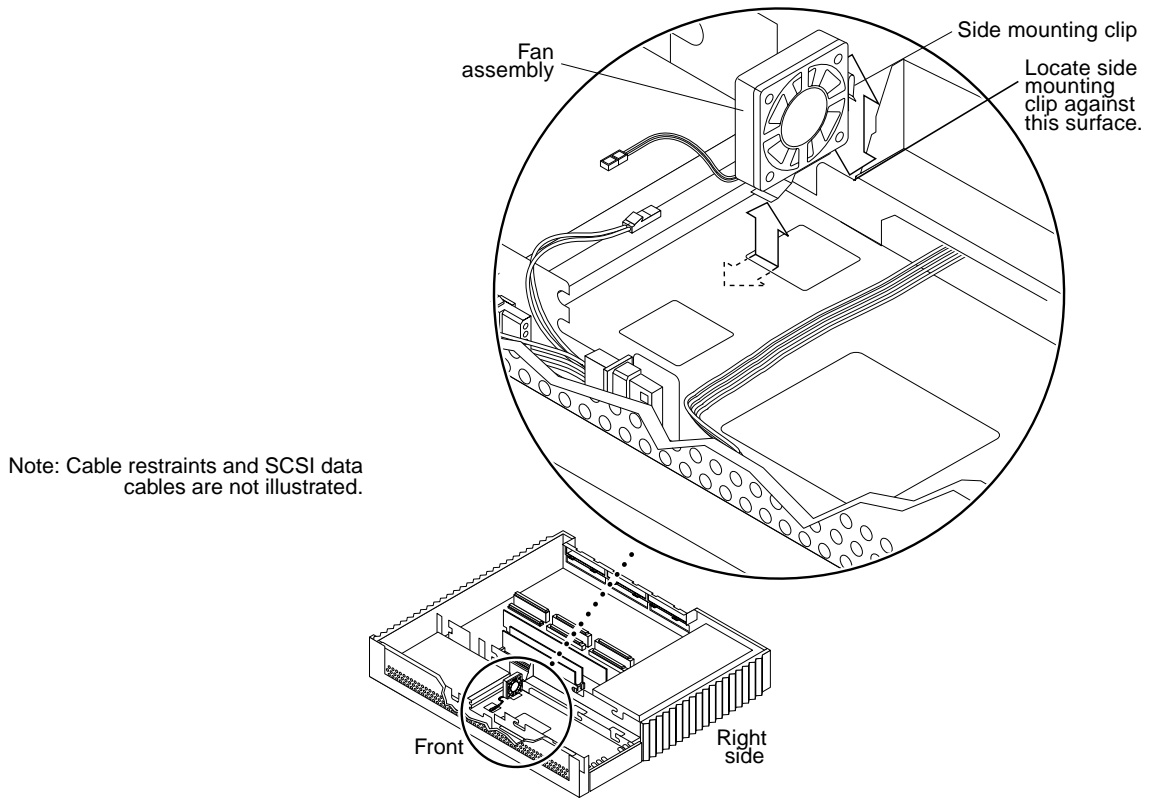

FIGURE 8-13 Mounting the Fan Assembly
2. **Push the fan side mounting clip against the vertical edge of the chassis (FIGURE 8-13).**